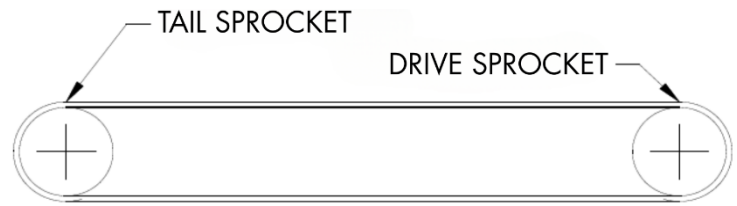

Figure 2.4 – Chain Routing for End Drive Slat Conveyor
- Install chain and slats per Figure 2.4.